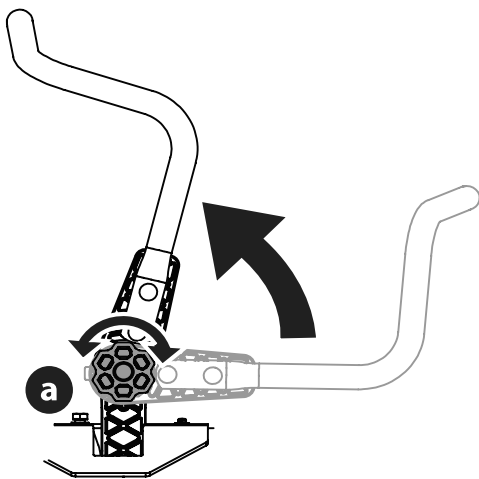

Figure 9
1. Rotate the knob (a) counter-clockwise to loosen the knob (a) (Figure 9).
3. Rotate the knob clockwise to secure the lapbar drive control lever into position (Figure 9).